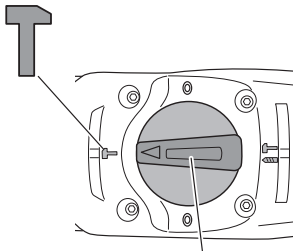

Fig. 8 Selector lever
(1) Switching to “hammering”
- (b) Align ▲ of the selector lever and T of the crank cover as illustrated in Fig. 8.